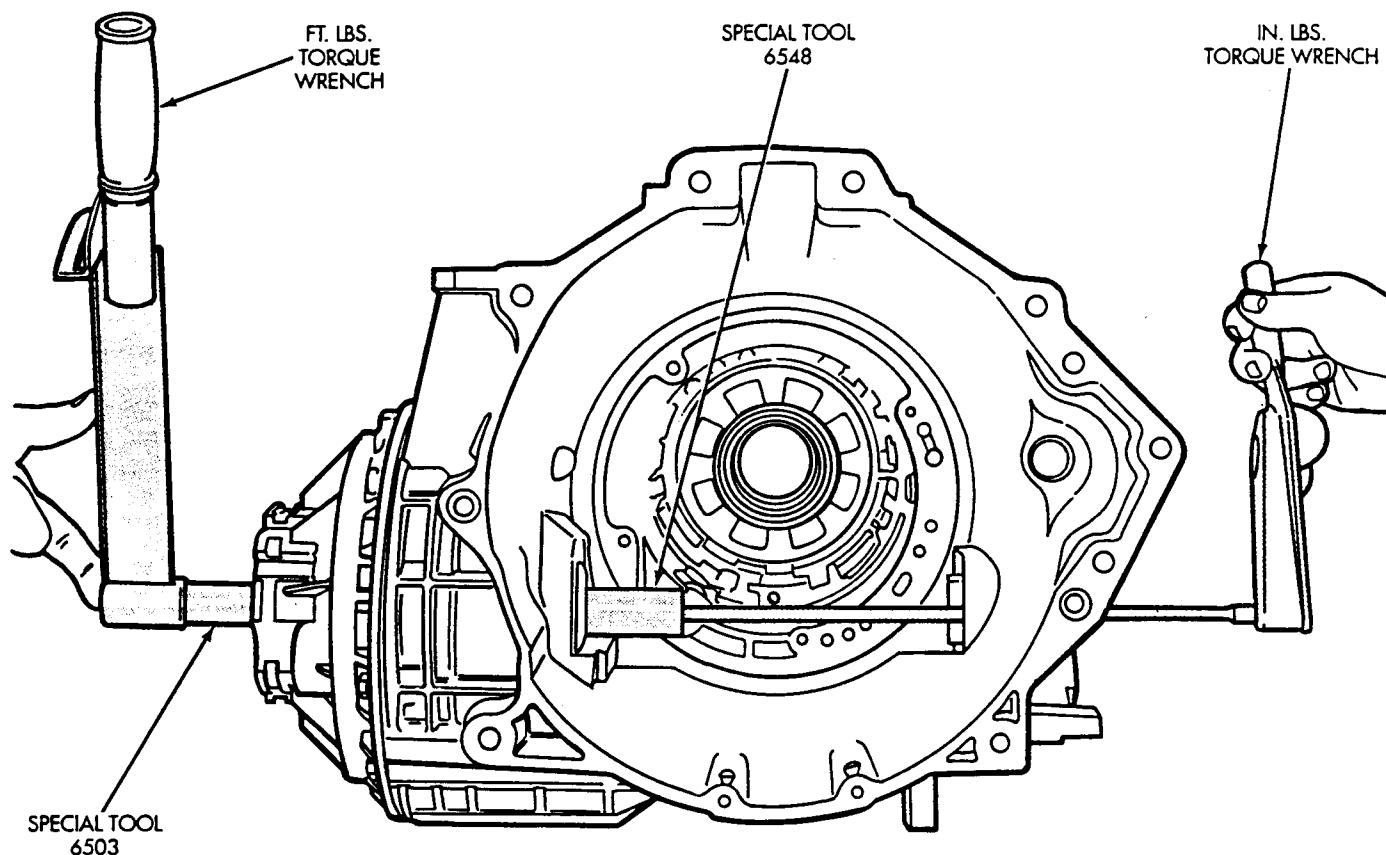

Fig. 22 Determining Turning Torque
(25) Tighten outer adjuster with special tool 6503 until 19 to 23 in. lbs. of turning torque are obtained on special tool 6548. Record how many foot pounds were required on the outer adjuster to obtain the correct turning torque (Fig. 22). Record the foot pound reading. The reading that you are recording will be used in step 48 of this procedure.